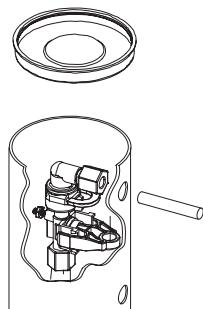

Figure 6
**NOTE: Once the tubing has been pushed into the nut it cannot be pulled out. The nut will need to be removed. See Figure 6 for correct assembly.**